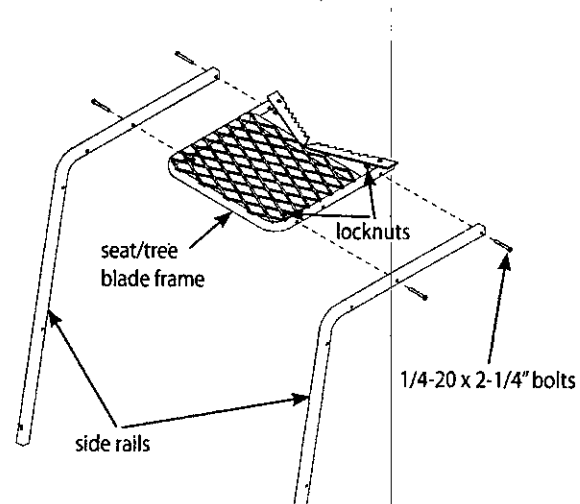

Figure 2
3. Attach the seat/tree blade frame (SL24) to the side rails using (4) provided 1/4-20 x 2-1/4" bolts and locknuts. **SEE FIGURE 2. You must now tighten all nut & bolt assemblies. Be sure not to over tighten or crush tubing when tightening!**